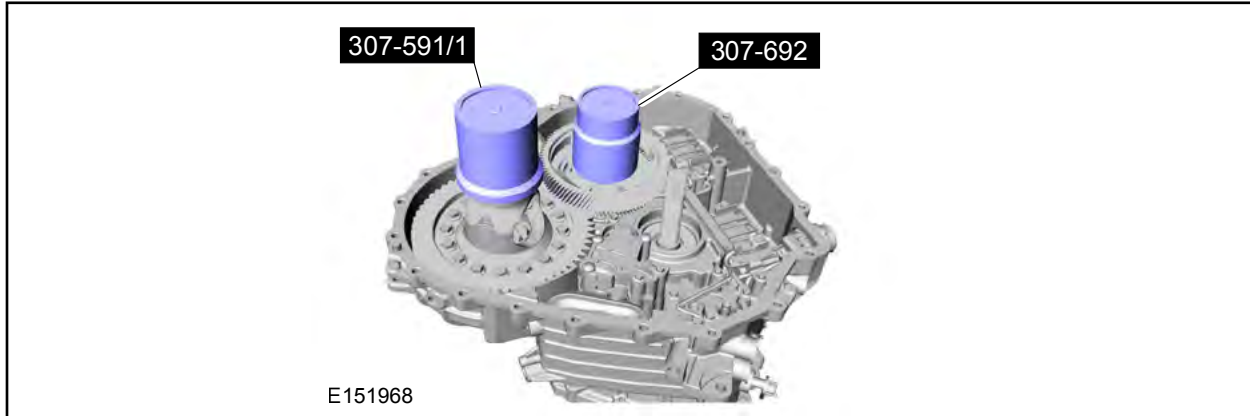

FIGURE 21
17. Install the special tools on top of the bearing cups. See Figure 21.